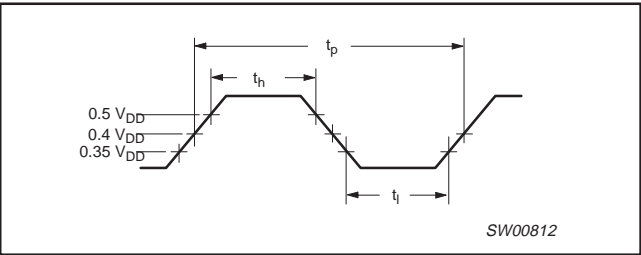

Figure 2. Buffer Output clock
2.  $T_H$  is measured at 0.5  $V_{DD}$  as shown in Figure 2.
3.  $T_L$  is measured at 0.35  $V_{DD}$  as shown in Figure 2.